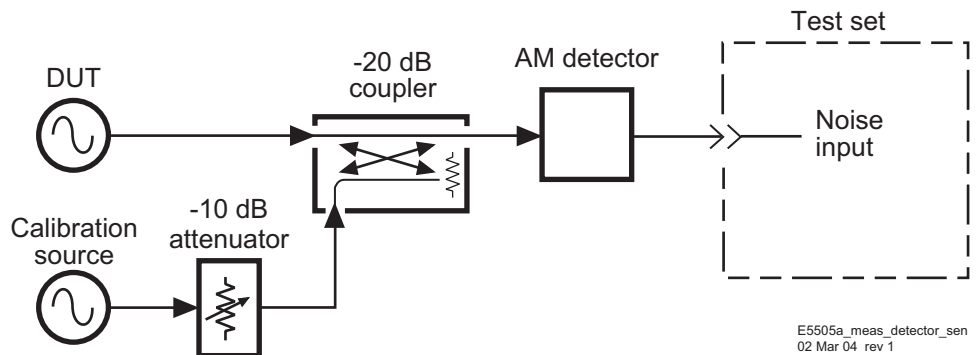

Figure 236 Measuring detector sensitivity
- 4 Reconnect the AM detector and measure the detector sensitivity. See Figure 236.